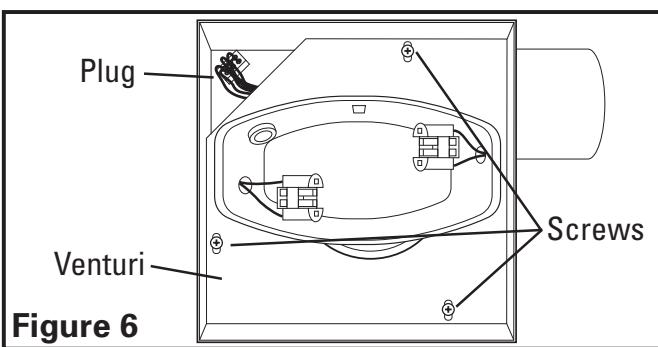
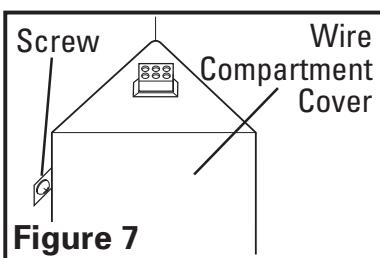

Figure 6
Figure 7
- 1b. **Internal Wire Compartment:** Remove the three screws holding the blower assembly in place and lift assembly out of housing (**Figure 6**). Remove the wire compartment cover screw and place the cover in a secure place (**Figure 7**).